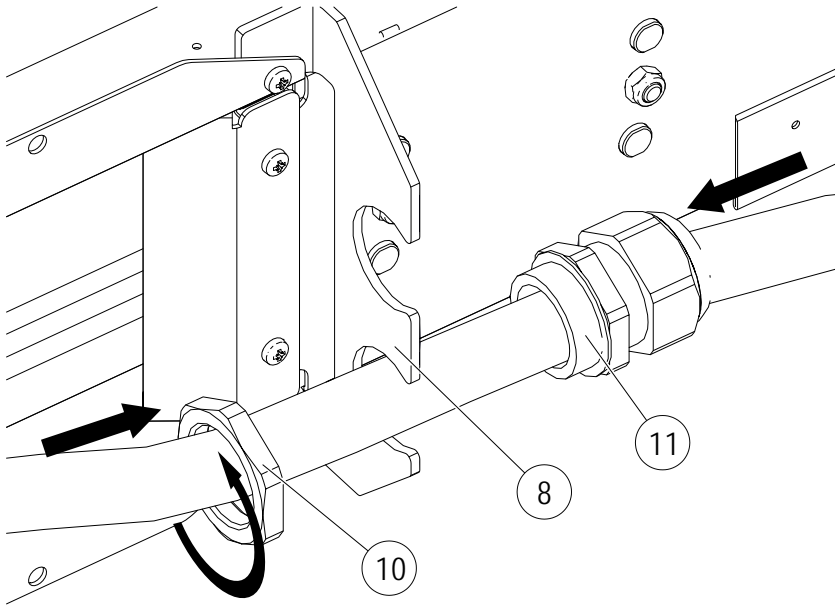

Fig. 48: Install strain relief
6. Fasten the connecting cables to the metal plates of the fastening frame (8) using the strain relief, consisting of the lock nut (10) and screw connection (11) (see Fig. 48).